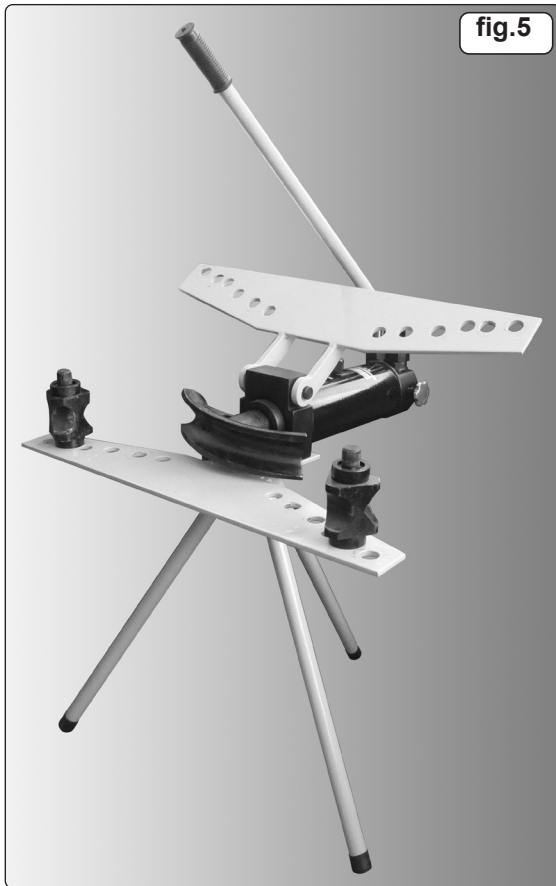

fig.5
- 5.3. Hinge up the top plate. Select the required die (see fig.4) and place it onto the end of the ram piston. See fig.5.